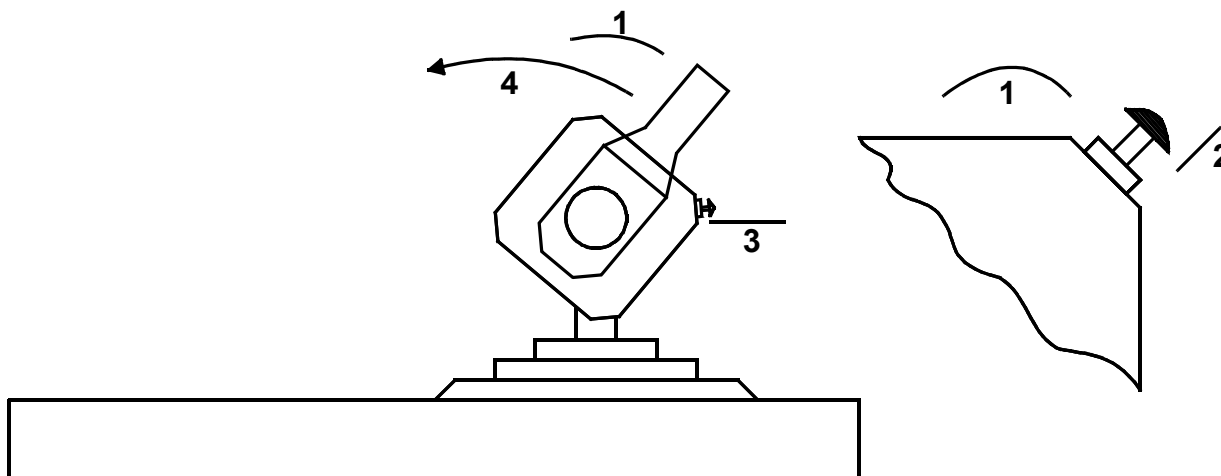

Fig. 7 - Articulated arm
1. remove the articulated arm (Fig. 7) from its resting position and rotate it clockwise (1);
2. when the spring is tensed, press the retainer downwards (2);
3. to return to the resting position, rotate slightly clockwise (1), release the retainer (3) then rotate counterclockwise up to the resting position (4);